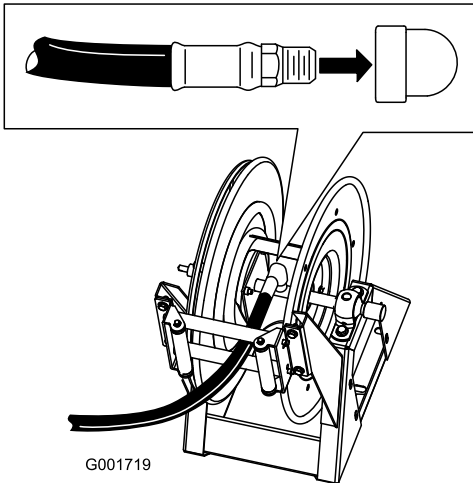

Figure 46
2. Wrap Teflon® tape around the threads of the hose fitting on the long hose, and install the fitting into the connecting tube on the reel (Figure 46).